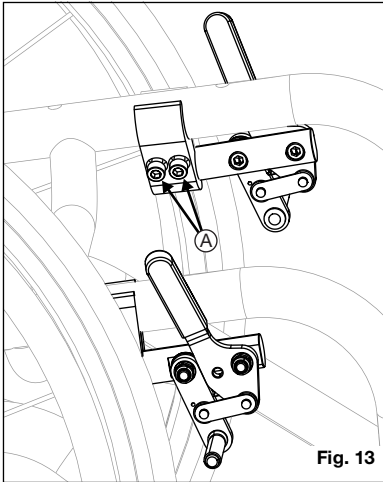

Fig. 13
1. Use a 5 mm Allen wrench to turn one of the screws in the clamp until it runs easily (less than one turn). See Fig. 13:A.